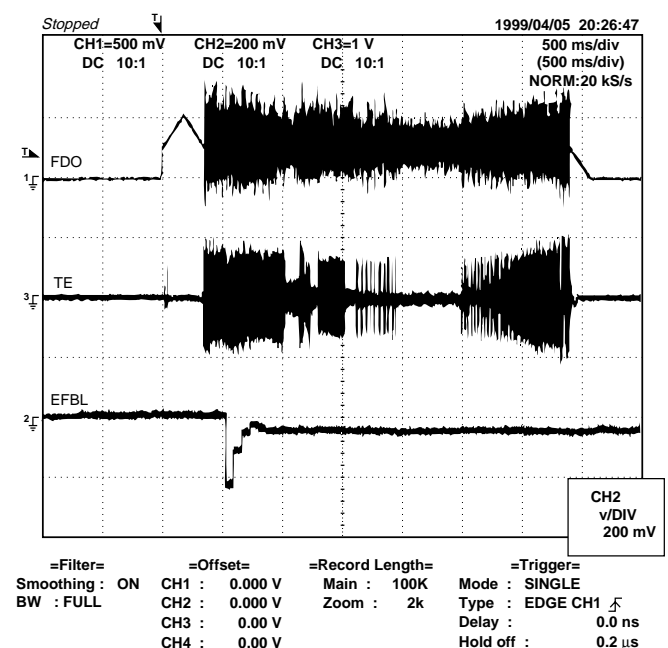

Figure 11-2
(2) Tracking balance adjustment (waveform drawing Fig.11-2 EFBL)
(3) Gain adjustment (The gain is compensated inside the IC so that the loop gain at the gain crossover frequency will be 0 dB.)